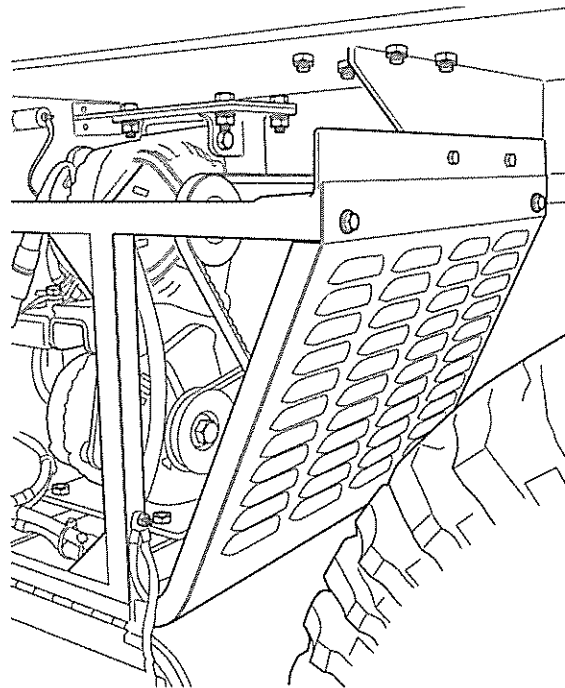

Fig 4 Hydraulic module end cover (typical)
17.8 Remove and retain the bolts securing front and rear end covers of the hydraulic module and remove the cover (see Fig 4).